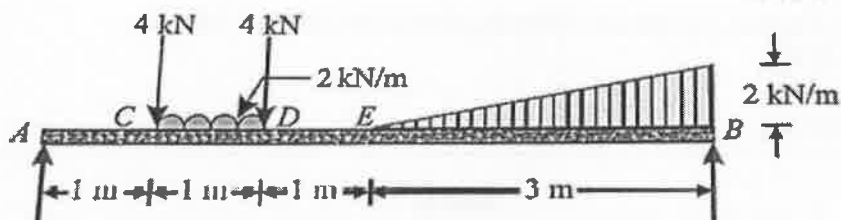

Figure 5
- a) A simply supported beam AB of 6m span is subjected to loading as shown in figure 5. Find the support reactions at A and B